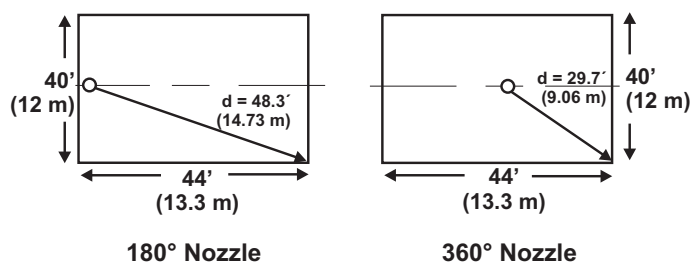

Figure 4-3. Nozzle Placement and Coverage
180° nozzles have a maximum coverage area defined as any rectangle that can be inscribed in a semicircle of distance 48.3 ft. (14.73 m, diagonal of a rectangle 20 ft. x 44 ft.). Refer to Figure 4-3 for further information.
- **360° Nozzles**-360° nozzles must be located as close to the center of the enclosure as possible. 360° nozzles have a maximum coverage area defined as any rectangle that can be inscribed in a circle of radius 29.7 ft. (9.06 m, diagonal of a rectangle 20 ft. x 22 ft.). Refer to Figure 4-3 for further information.